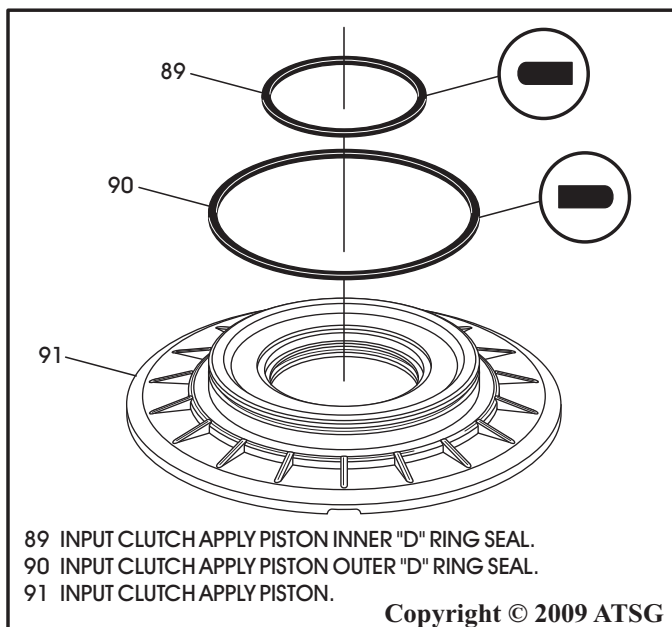

Figure 98
5. Install new "D" ring seals on the input clutch piston, as shown in Figure 98, and lube with a small amount of Trans-Jel®.